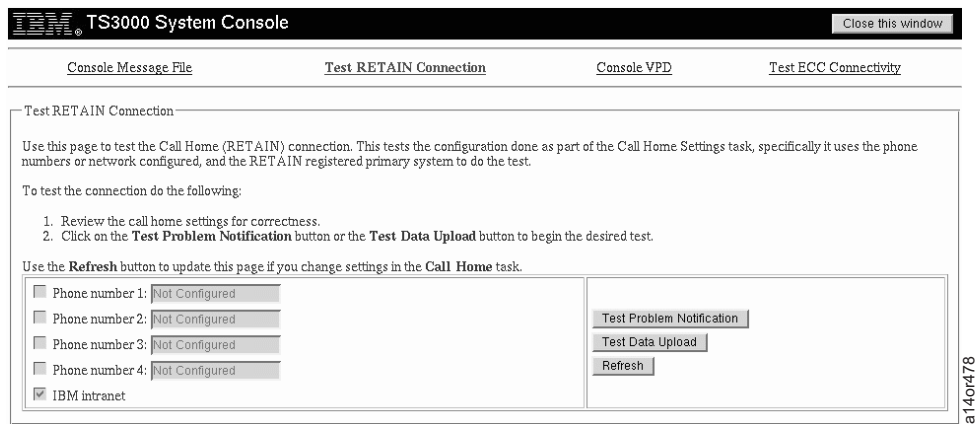

Figure 130. Test RETAIN Connection Request Screen - During Installation
4. Click **Console Status**. The Test RETAIN Connection screen shown in Figure 130 appears.